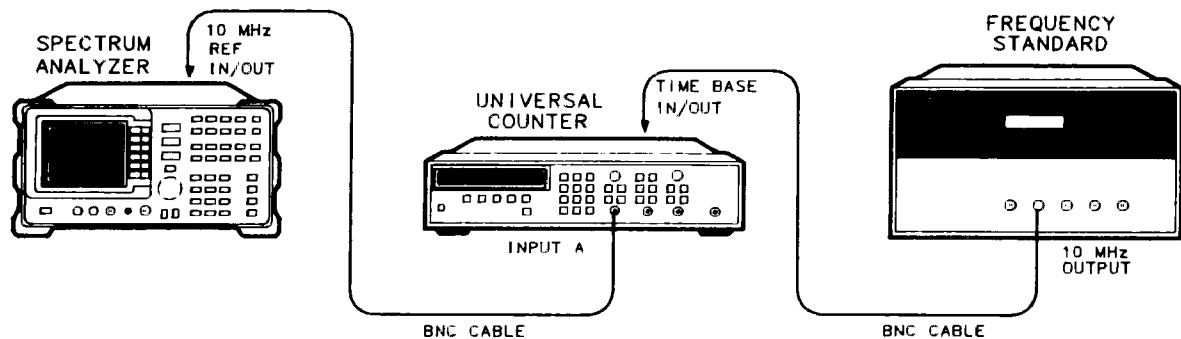

Figure 3-24. 10 MHz Reference Output Accuracy Test Setup (Option 003)
2. Connect the equipment as shown in Figure 3-24.
11. Check that the equipment is connected as shown in figure 3-24.